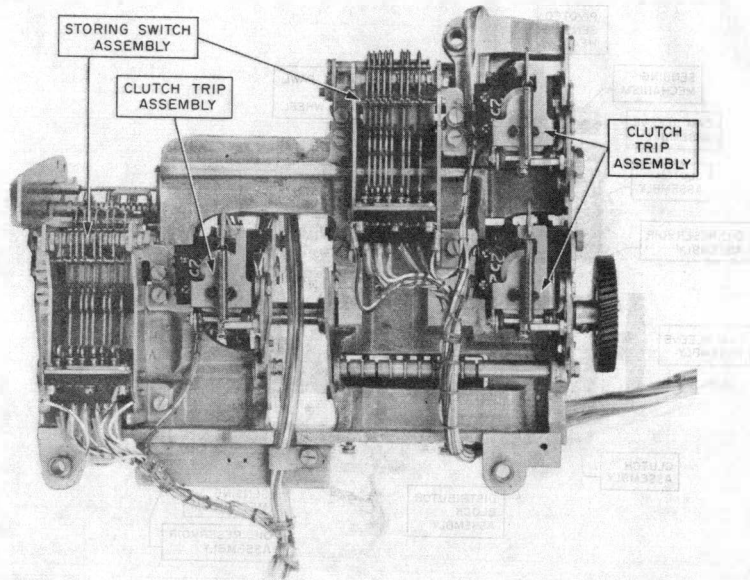

Fig. 1—28B Transmitter-Distributor Unit—Bottom View
2.01 The following photographs (Fig. 1 through 6) show the location on the 28B or 28C transmitter-distributor unit of the mechanisms to be lubricated. Specific lubrication instructions are given in the line drawings in Part 3 of the section. Parts in the line drawings are shown in an upright position unless otherwise indicated. If it is difficult to lubricate a part in the indicated position, the unit should be turned to a position in which the part is more accessible.